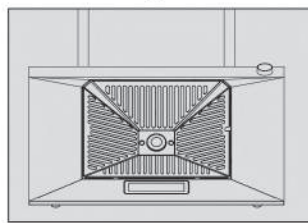

Fig. 5
1. Insert a small straight screwdriver in the right gap of the light to slightly pry it downward; (Fig. 5)